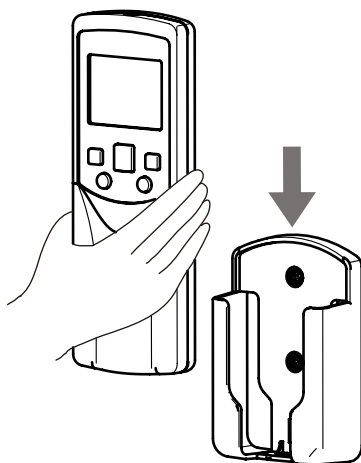

Figure 2.4
2) Slide the remote controller vertically down into the remote controller bracket (see Figure 2.4).